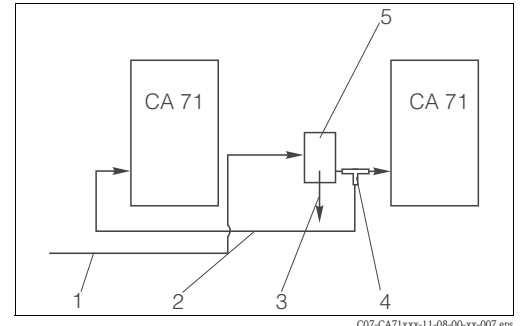

Fig. 13: Installation example
- Distance between the analysers as short as possible: sampling line between T-piece and the second analyser (Fig. 13, item 2) shorter than 1.5 m